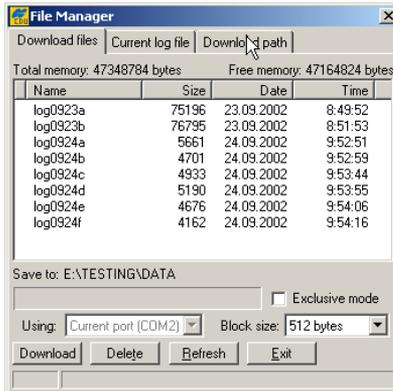

Figure 5-10. Find Files to Download
4. Click **File** ► **File Manager**, and then the **Download path** tab on the *File Manager* dialog box (Figure 5-10).